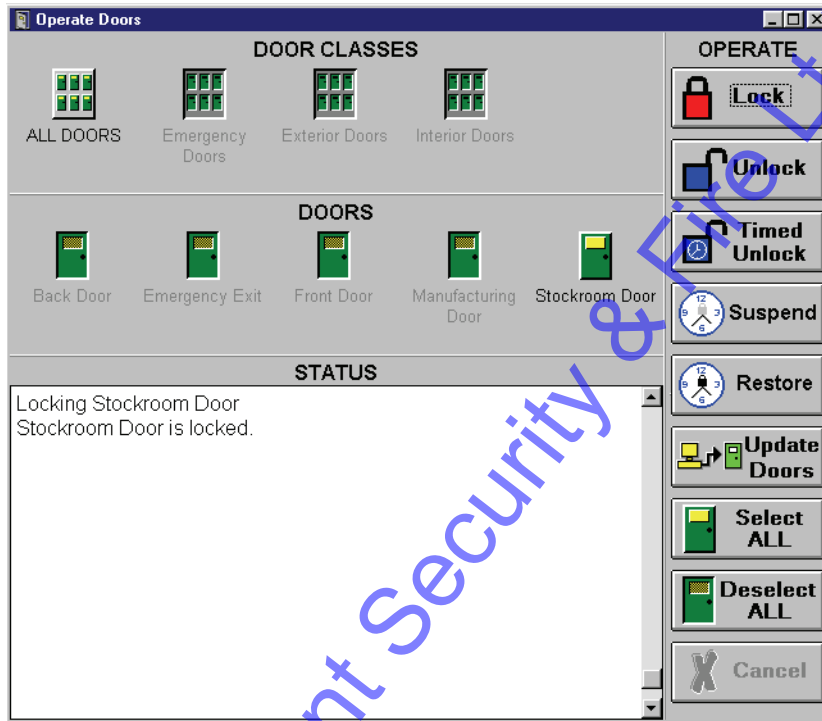

Figure 6-4: Locking a Single Door
3. Click on the  button. The resulting window will look like Figure 6-4.